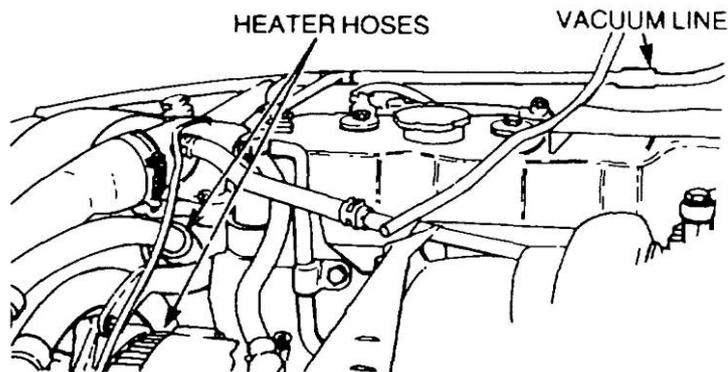

Figure 3 Removal of the Heater Hoses
- j.** Disconnect the heater hoses at the thermostat and water pump housings (Figure 3) and plug them with suitable plastic plugs. Disconnect the differential lock vacuum line and the vacuum line to the brake servo.